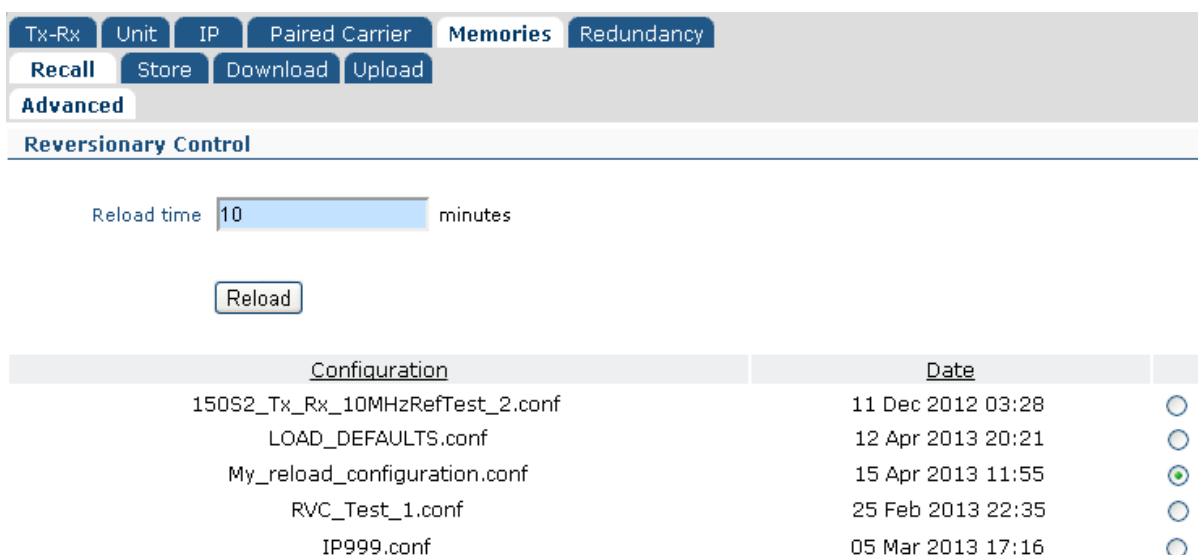

Figure 6-34 Edit->Memories->Advanced Reversionary Control Screen
The *Edit->Memories->Recall->Advanced* screen (shown in **Figure 6-34**) supports a method for recovering a remote modem from a failure during a change to the modem's configuration. In essence, this works in a similar way to the Cisco Reload command, where a known trusted configuration is loaded after a defined timeout period in the event that the reload operation is not cancelled by the operator in a timely manner after completing the necessary configuration changes.
6. After completing the configuration changes, navigate back to the *Edit->Memories->Recall->Advanced* screen and cancel the timeout by clicking on the *Cancel* button. The screen will now revert to its original format shown in **Figure 6-34**.